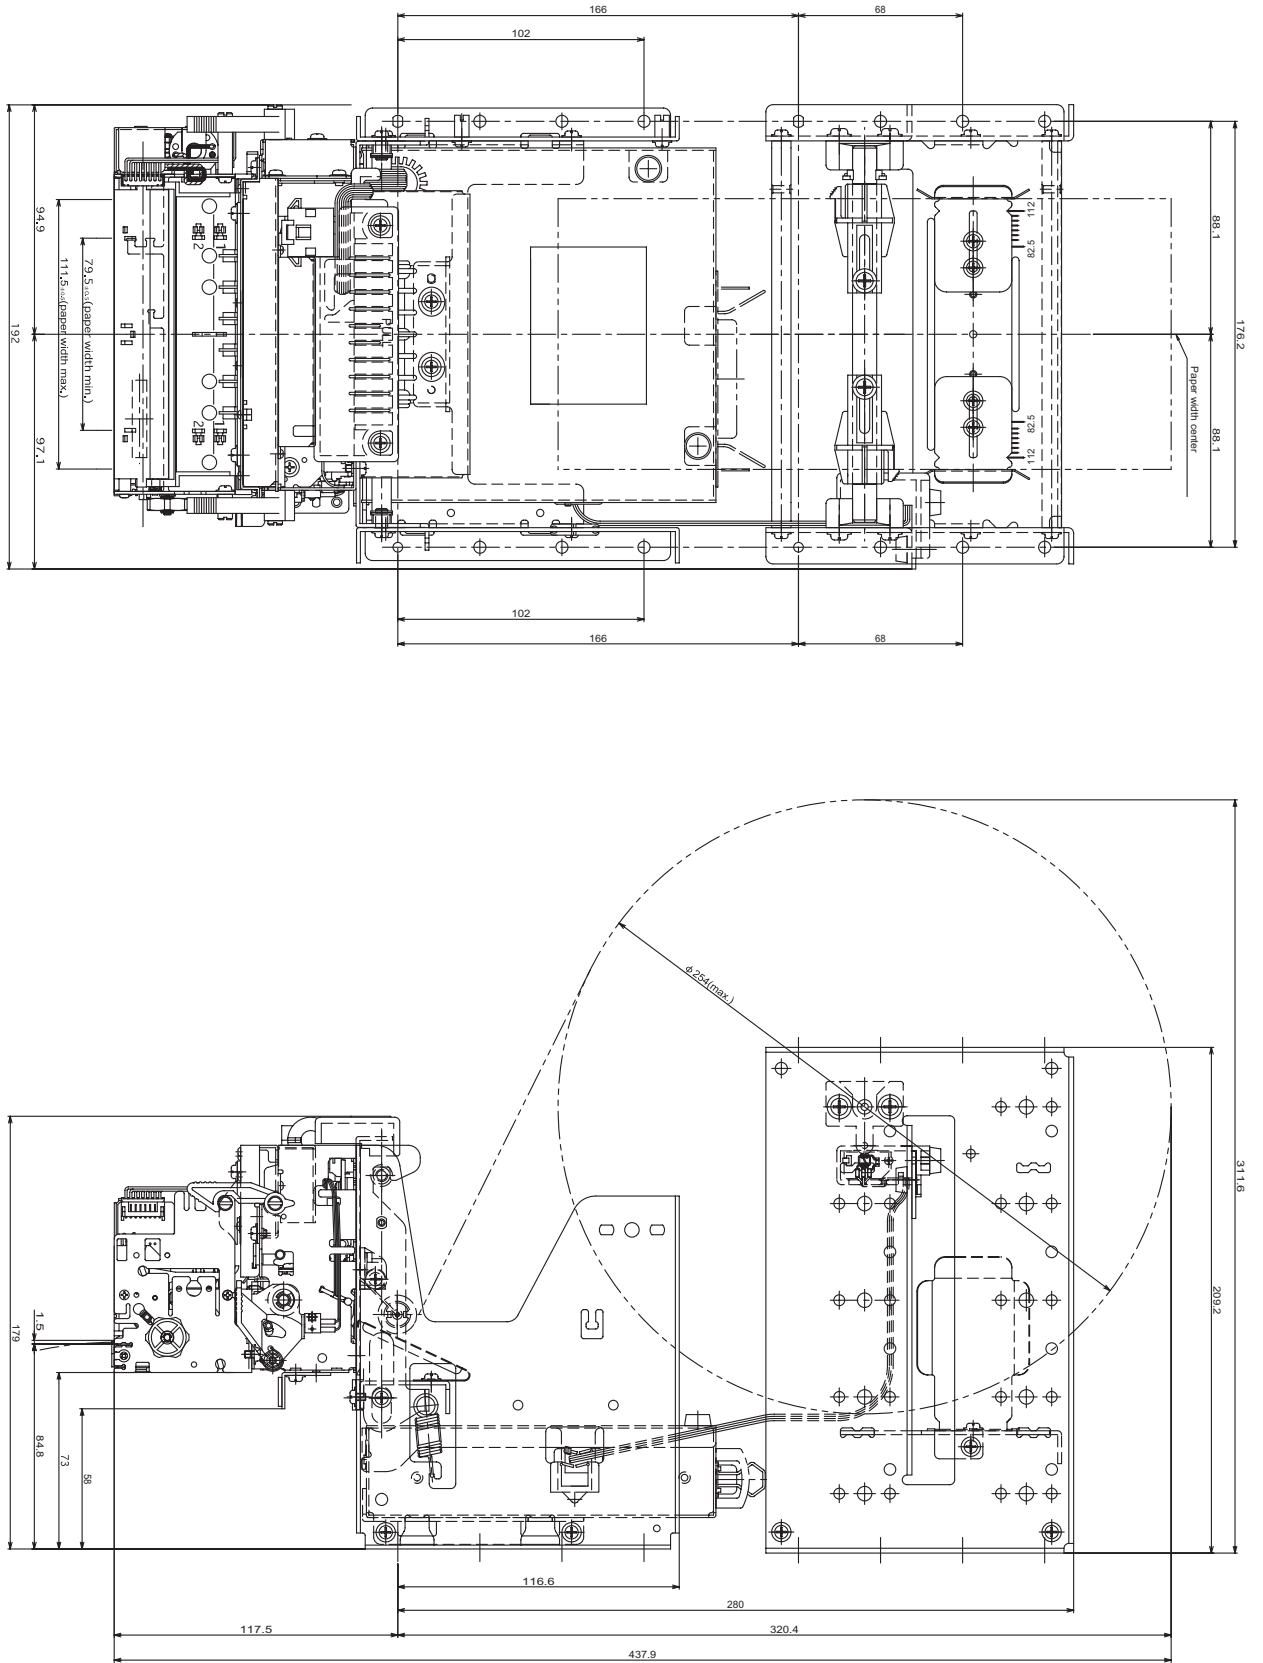

Fig. 7.2.1 Horizontal Layout
Fig. 7.2.1 on the separate sheet shows the recommended layout. Note that the maximum paper roll diameter that can be handled is  $\phi 254$  mm, because of the arrangement of the apparatus in this layout.
3) When using the maximum diameter paper roll of  $\phi 254$ , it is recommended to separate the printer unit and high volume paper roll supply as much as is possible. Absolutely never setup closely, as shown in Fig. 7.2.1. This can cause paper transporting problems.